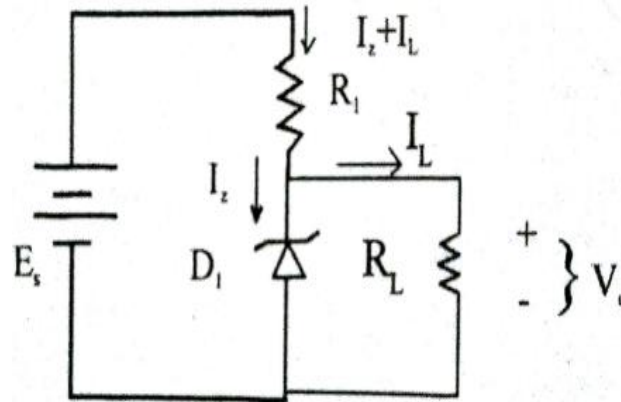

Fig.32
- When a zener diode regulator is required to supply a load current, the total supply current (flowing through resistor  $R_1$ ) is the sum of  $I_L$  &  $I_Z$ . (shown in Fig.32)